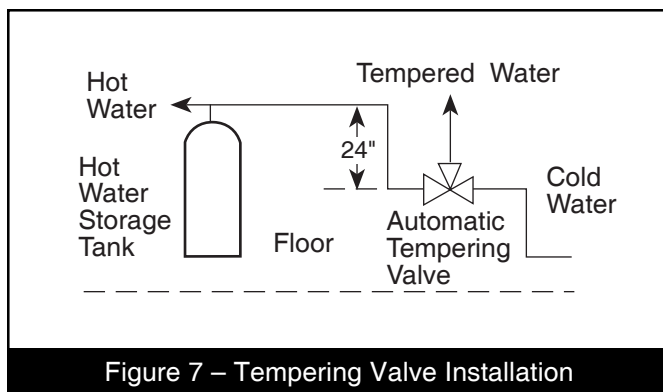

Figure 7 – Tempering Valve Installation
7. When installing a tempering valve, locate it at the bottom of the antithermosyphon loop at least 24" high to prevent excessive hot water from entering the mixed water supply (**Figure 7**). Bring the cold water supply up from the floor to the valve.